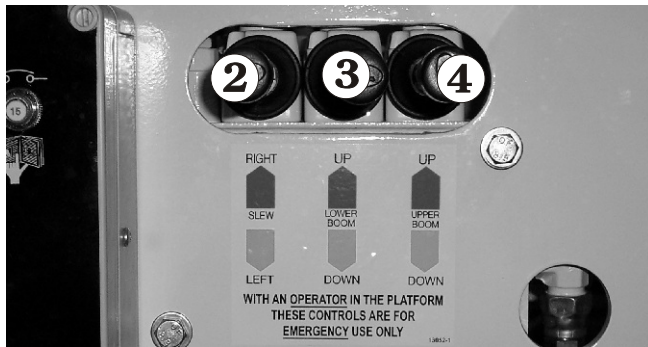

Figure 9.22 - Ground Boom Controls
Check that each of the boom moving valve levers (see Figure 9.22) (② through to ④) cause the MHP15/44HD to move the way it should.